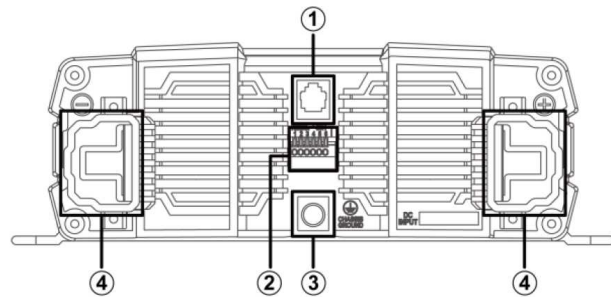

Figure N.3
3. Turn the main switch on the inverter (figure N.3, position 4 into the position „II”.